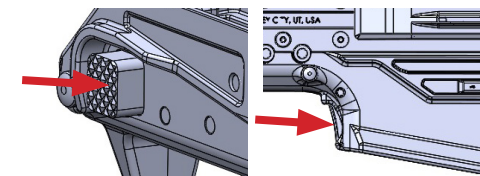

Fig. f-2
2. Remove the magazine by pressing the magazine release button above the trigger or by pressing the magazine release down (in front of the magazine well) and pull the magazine downward until it clears the rifle. (Fig. f-2)